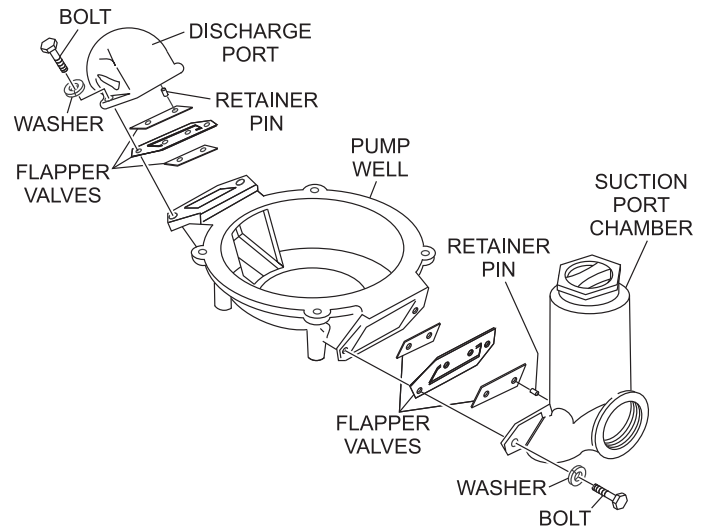

Figure 20. Flapper Valve Replacement
1. Remove the two bolts that secure the suction port chamber (Figure 20) to the pump well. Remove suction port chamber. Replace valves as required and reassemble.
2. Remove the two bolts that secure the discharge port (Figure 20) to the pump well. Remove discharge port plate. Replace valves as required and reassemble.